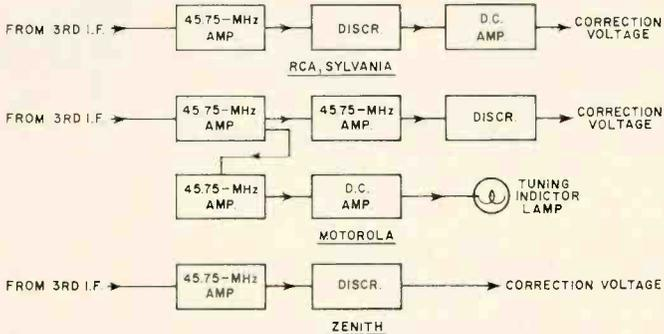

Fig. 3. Block comparison of transistorized a.f.t. control circuits.
Fig. 3. (A) Physical configuration of an LED. The hemispherical shape reduces the chances of an emitted photon striking the semiconductor-air interface at less than the critical angle of 16 degrees. (B) Relative output intensity as function of "viewing" angle from the optical axis. The effective